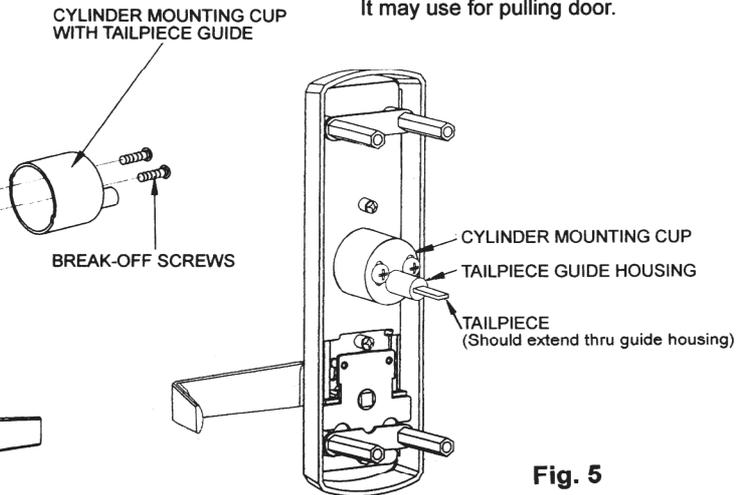

Fig. 5
4. Adjust two break-off screws to eliminate excess length then fasten the rim cylinder. (See Fig. 5.)